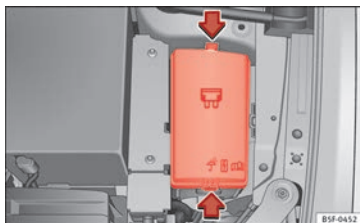

Fig. 103 In the engine compartment: fuse box cover
- Press the locking tabs to release the fuse box cover »» Fig. 103.